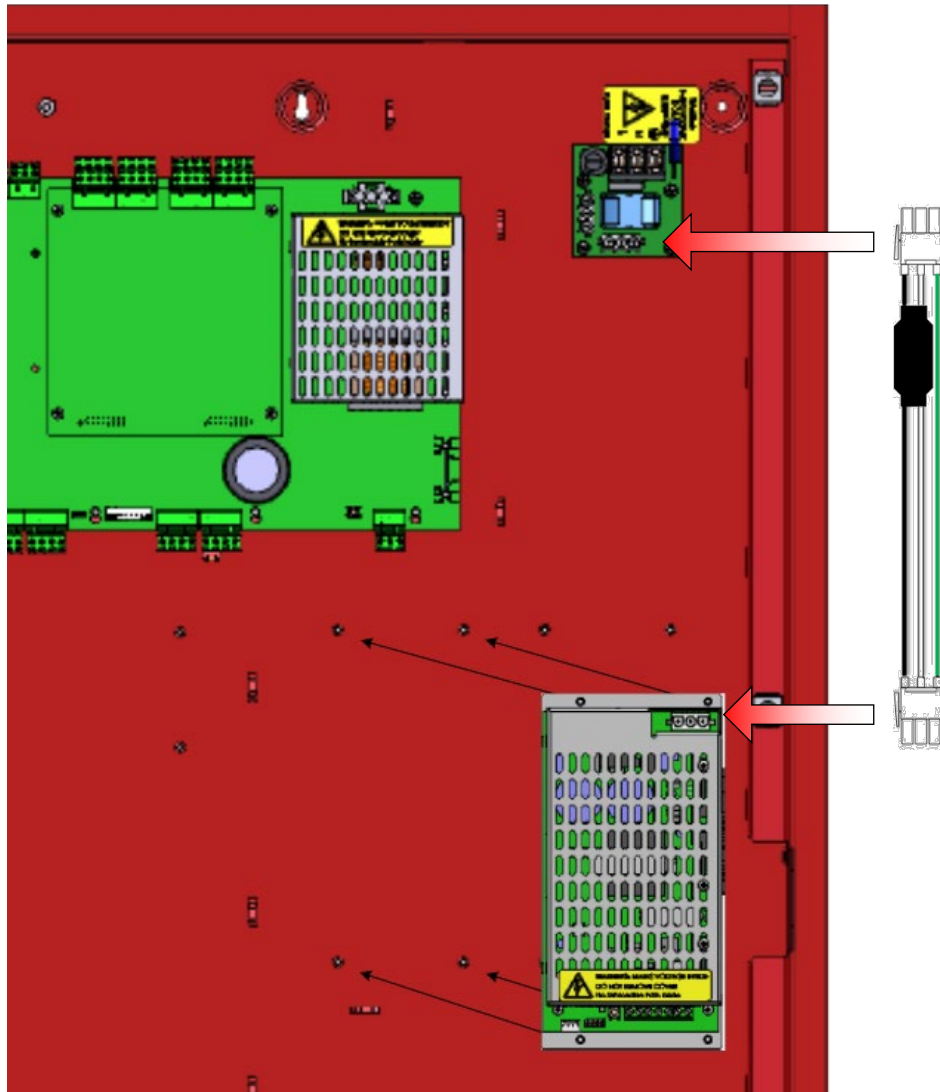

Figure 19 - NX10-EM-PSU Installation
1. Make sure that the panel has been isolated from the main (AC) and battery (DC) power supplies.
4. Remove the four (4) panhead screws that secure the NX10-EM-PSU to the backbox and carefully remove the NX10-EM-PSU module (Figure 19).
1. Mount the NX10-EM-PSU module to the enclosure's installed blind threads, located on the right-side of the command centre backbox below the NX10-ACS-2L base card, using the four (4) screws supplied with the module (Figure 19)